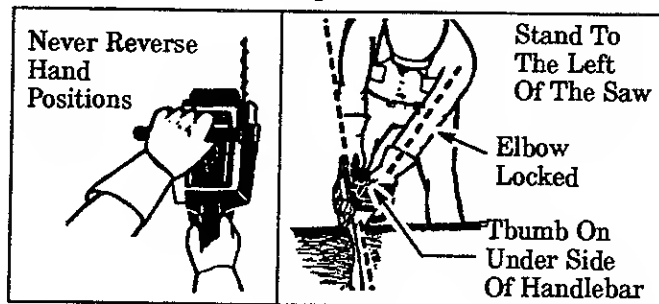

Figure 3
1. **Keep a good, firm grip on the saw with both hands when the engine is running and don't let go.** Figure 3. A firm grip can neutralize kickback and help you maintain control of the saw. Keep the fingers of your left hand encircling and your left thumb under the front handlebar. Keep your right hand completely around the rear handle whether you are right handed or left handed. Keep your left arm straight with the elbow locked.
2. **Position your left hand on the front handlebar so it is in a straight line with your right hand on the rear handle when making bucking cuts.** Figure 3. Never reverse right and left hand positions for any type of cutting.
4. **Stand slightly to the left side of the saw to keep your body from being in a direct line with the cutting chain.** Figure 3.